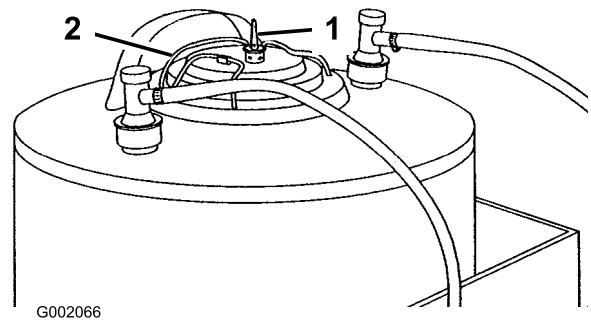

Figure 32
2. Flip the pressure relief valve to the upright position (Figure 32). Wait until all air has escaped.
2. Relieve pressure within tank by flipping the pressure release valve into the upright position (Figure 32).